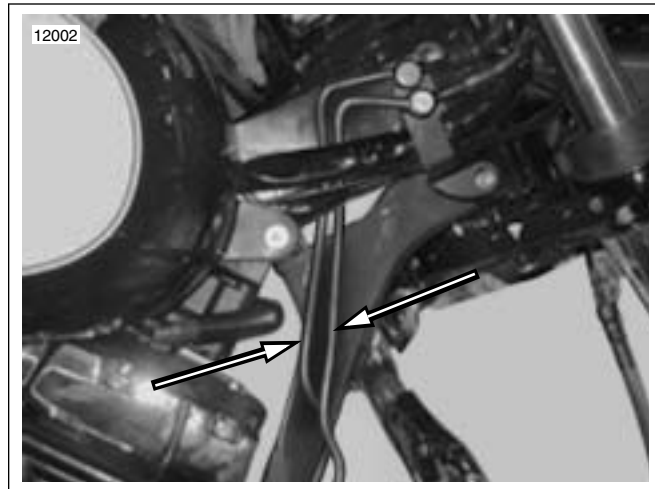

Figure 4. Incorrect Routing For Rearward Extending Brake Lines
2. See Figure 4. Routing is incorrect when both brake lines extending rearward from the brake manifold are uneven leaving large gaps and crossing each other where bends occur.